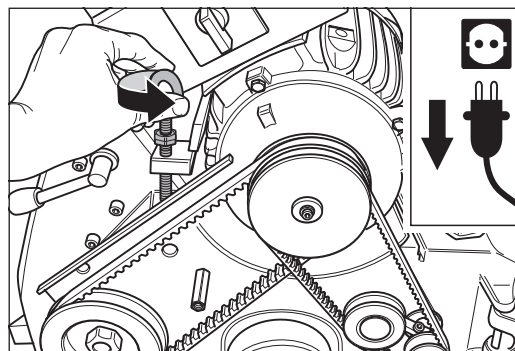

Fig. 104 Release the tension of the V-belts by turning the eye bolt at the motor counterclockwise.
- 5 Release the tension of the V-belts by turning the eye bolt at the motor counterclockwise (fig. 104).